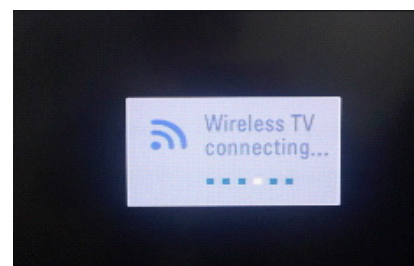

Fig. 3 Connect the Dongle
Step 2) At OSD of SET, check the message like Fig.3.